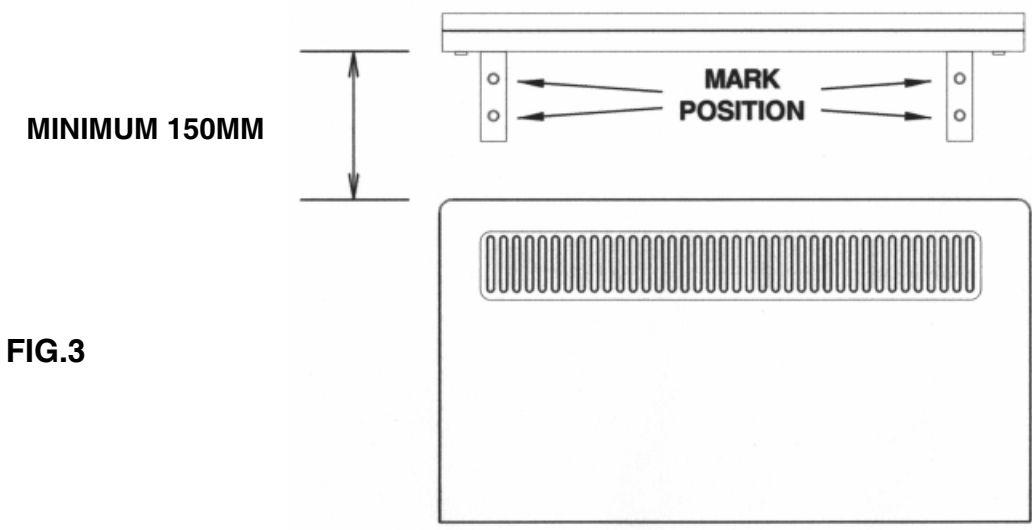

FIG.3
- 6 Position the shelf centrally above the heater so that the bottom edge of the shelf is at least 150mm above the top surface of the heater. Check that the shelf is level and mark the positions of the four screw holes on the wall, refer to fig. 3.